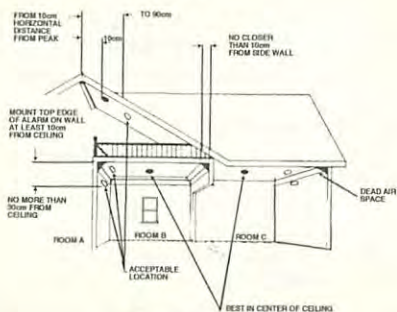

FIGURE 4
- Do install smoke alarms on the ceiling not closer than 4 inches to any wall or corner, or on the wall at least 4 inches but no more than 12 inches from the ceiling. See Figure 4.